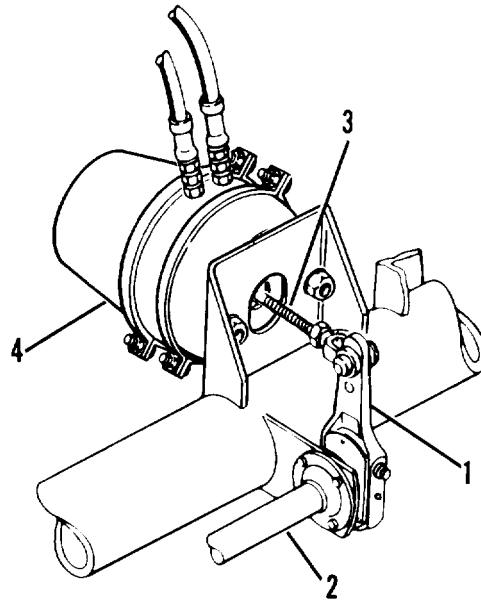

Figure 4-24. Slack adjuster and air brake chamber
e. Slack Adjusters. The slack adjusters (1, figure 4-24) are levers mounted on the brake camshafts (2). Push rods (3) of the air chambers (4) operate the slack adjusters (1) which in turn rotate the camshafts (2) causing the cams to press the brake shoes against the brake drums.
f. Air Brake Chamber. The air brake chambers (4, figure 4-24) are mounted adjacent to the internal wheel brakes. The air brake chambers convert air pressure into mechanical motion to operate the slack adjusters when applying brakes. The spring in the air brake chamber may be caged in case of air loss or brake failure to move the semitrailer.